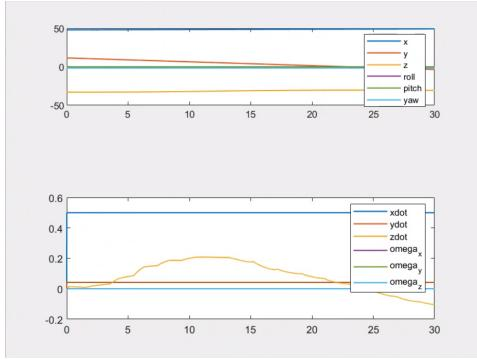

Figure 9: Position and velocities during the Minimum Altitude Vehicle task imposed 1m threshold
- **1 m:** This time the problem is the opposite. The control task is no more active at the starting instant. The UVMS starts to accomplish the Vehicle Position Control task, when the seafloor present an hill the UVMS start to follow the pattern (Figure 9). However, there are some troubles during the navigation because the "noise" of the robot, with only 1 meter of distance (and no Δ that could prevent this), could touch the soil because the sensor it's on the center of the vehicle.